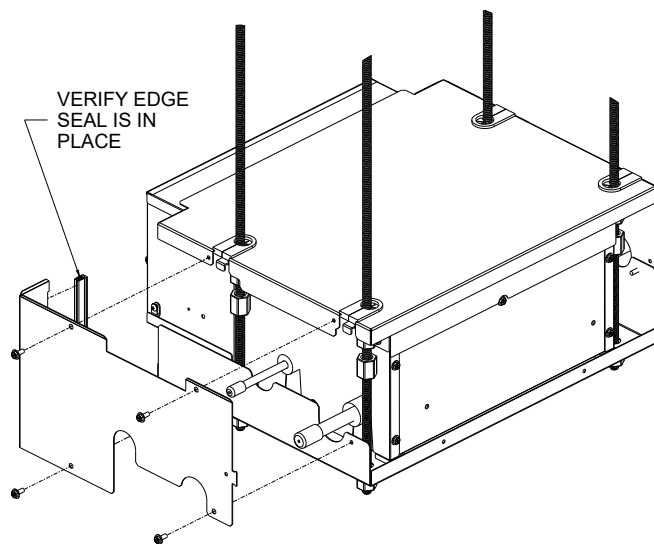

FIGURE G.3
**2.2** Install the Left-Side Panel (Item 7) by placing it over the side flanges of the top and bottom panels, then secure it at each indicated location. Ensure the Edge Seal is correctly seated. (Refer to Figures G.3 and G.4)